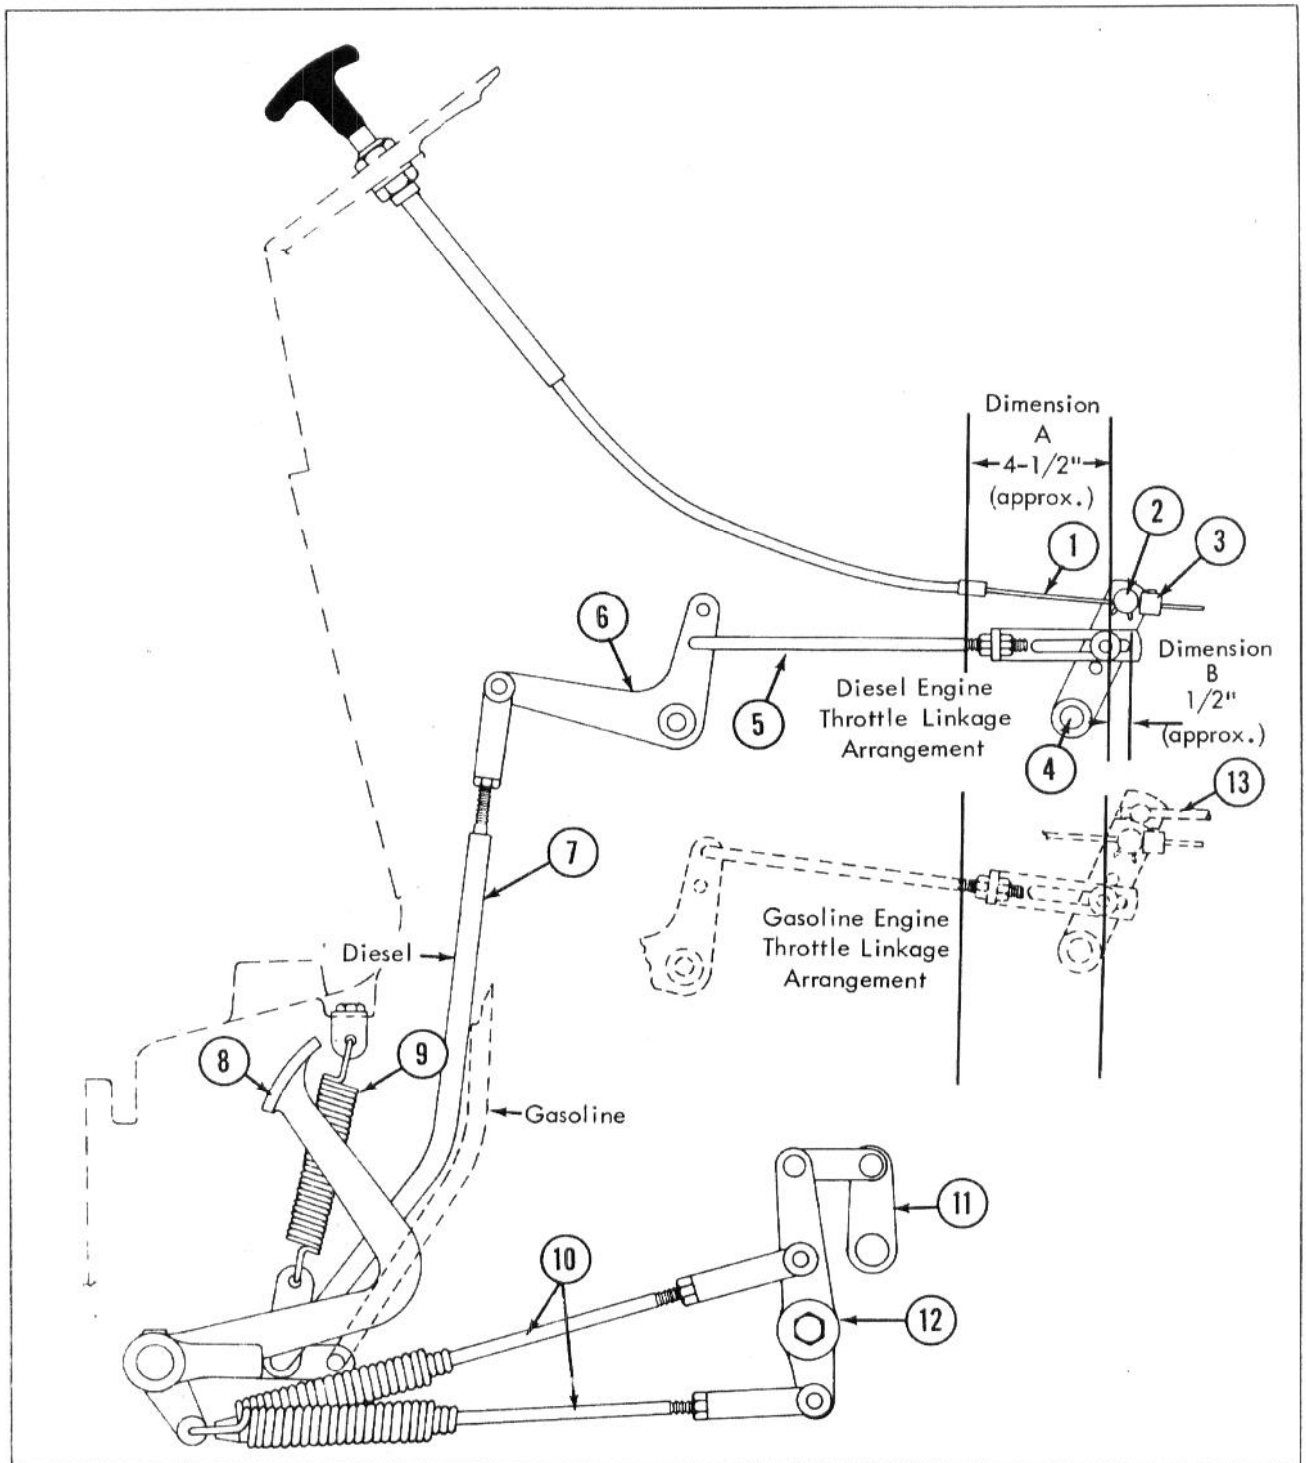

Fig. 16 — THROTTLE LINKAGE ADJUSTMENT — I. R. TRANS.
Instant Reverse transmission only — see Fig. 16.
- b. Hold foot pedal in full "up" position and adjust to dimension A. (Cross shaft levers are to be in their forward position and adjusted to dimension A in Fig. 16.)
- d. Hold cross shaft levers in forward position and push hand throttle control cable, No. 1, Fig. 16, completely inward. Slide collar, No. 3, Fig. 16, against swivel, No. 2, Fig. 16, and secure collar with setscrew.
Instant Reverse Transmissions only — See Fig. 16.
- b. Hold foot pedal in full "up" position and adjust to dimension A. (Cross shaft levers are to be placed in their forward position and adjusted to dimension A in Fig. 16.)
and push hand throttle cable, No. 1, Fig. 16, completely inward. Slide collar, No. 3, Fig. 16, against swivel, No. 2. Secure collar with setscrew.